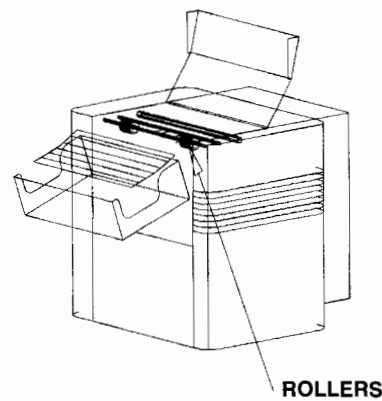
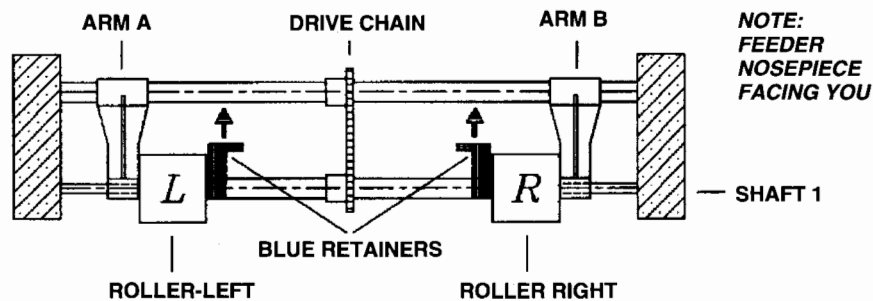

Figure 4-1b. Feeder Nosepiece Facing Towards User.
Figure 4-3. Roller Assembly Reference.
3. Close the feeder door and remove the Paper Feeder from your printer; position the Paper Feeder so that the unit's "nosepiece" (normally inserted into the printer) is facing towards you (see Fig. 4-1b).
5. With the Paper Feeder nosepiece facing you, lift the black top cover of the Paper Feeder to expose the unit's feed roller assembly (refer to figure 4-1b). Locate the following components that will be removed during the roller replacement process, as identified in figure 4-3.
Also, locate the following components, as identified in figure 4-3, which are referenced, but not removed, during the roller replacement process:
6. Remove each blue retainer on Shaft 1 by firmly grasping and pulling upward, as shown in figure 4-3.